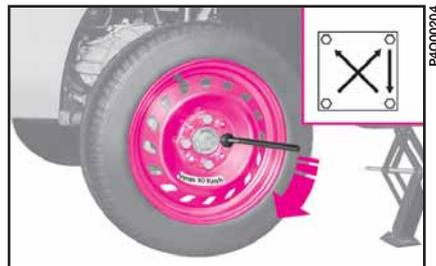

fig. 8
12) Fully tighten the bolts moving in a criss-cross fashion following the order shown in **fig. 8**.
6) Torque the screws in the order described above **fig. 8**.